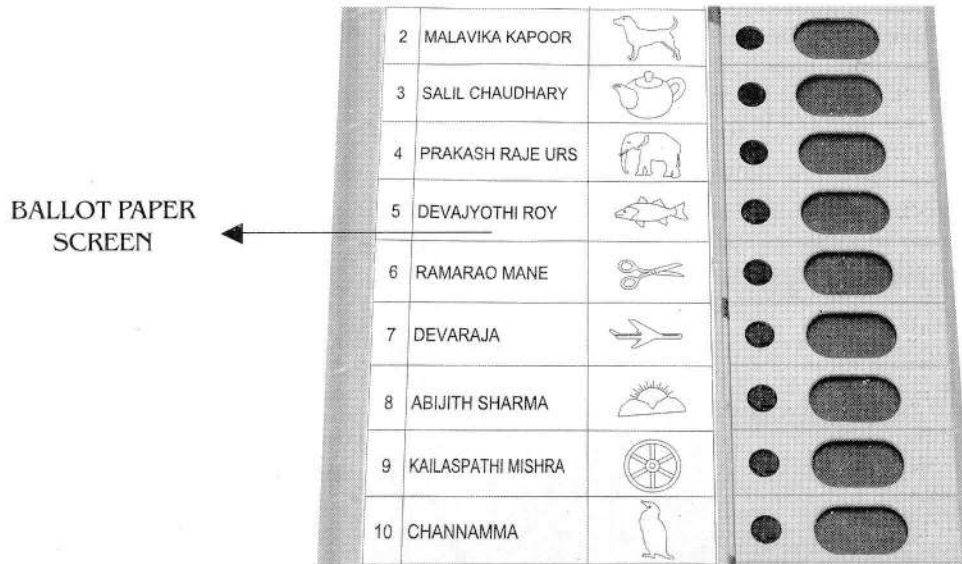

FIG. 17 Properly aligned Ballot Paper
5. Place the ballot paper in the space provided for the purpose on the upper side of the top cover. Align the ballot paper properly so that each candidate's name and his / her symbol are in line with the corresponding candidate's lamp and button. After ensuring this alignment, close and press fit the ballot paper screen to secure the ballot paper firmly underneath that screen (Fig. 17).